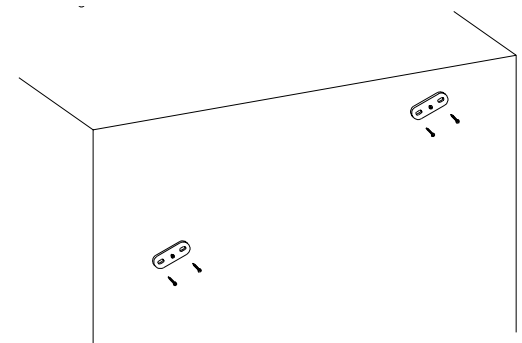

Figure 2
4. Mark the location of the keyhole for the front “L” clip on the freezer side. Place the bracket with a screw and two slots over the keyhole location and drill two 1/8” diameter holes in the center of the slots. It may be necessary to center punch the location prior to drilling. Mount the front bracket with the two #10 sheet metal screws provided. (see Figure 2)
5. Hang the cone dispenser on the front bracket and attach the rear bracket to the rear “L” clip. Rotate the cone dispenser to the proper orientation and mark the two slot locations. Drill two 1/8” diameter holes in the center of the slots and attach the rear bracket with the two #10 sheet metal screws provided. (See Figure 2)